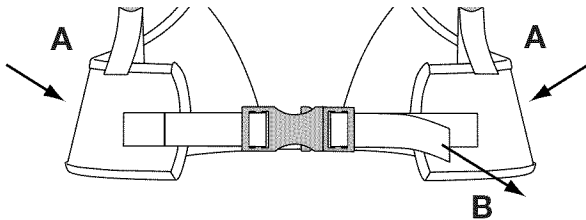
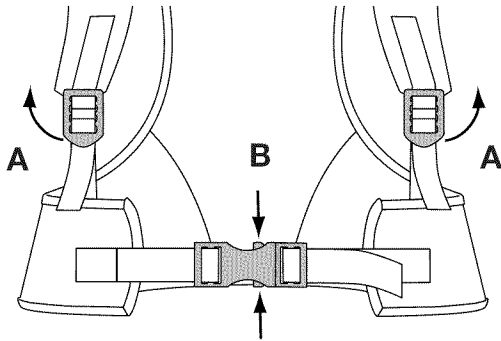

Fig. 18
Fig. 19
**NOTE:** Make sure the weight of the unit is supported on the hips by the waist support (Fig. 18, A).
3. If weight is not on hips, loosen the shoulder supports (Fig. 19, A) and pull the waist support handle (Fig. 18, B) to tighten. Adjust until the unit's weight rests on the hips.
1. To loosen the shoulder supports, pull up on bottom tab of the shoulder support buckles (Fig. 19, A).
2. Squeeze the top and bottom of the waist support clips to release the waist support (Fig. 19, B).